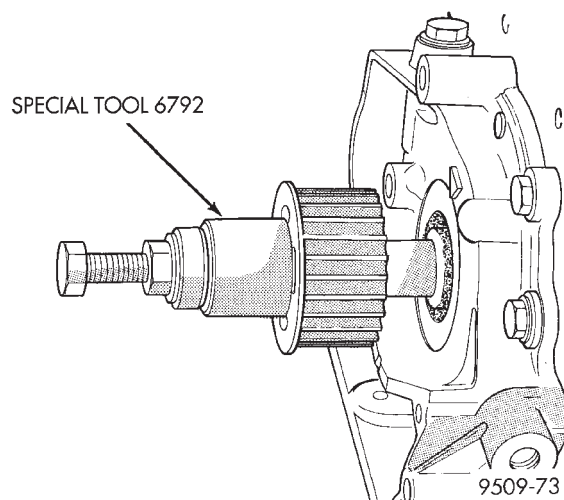

Fig. 73 Crankshaft Sprocket—Installation
(3) Install crankshaft sprocket (Fig. 73). Using Special Tool 6792.